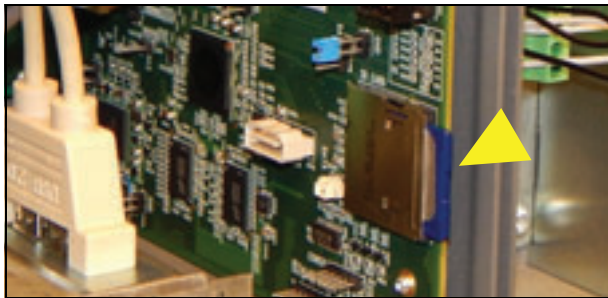

Figure 19. Locating SD card
3. Locate the SD card on the CPU board (see Figure 19).